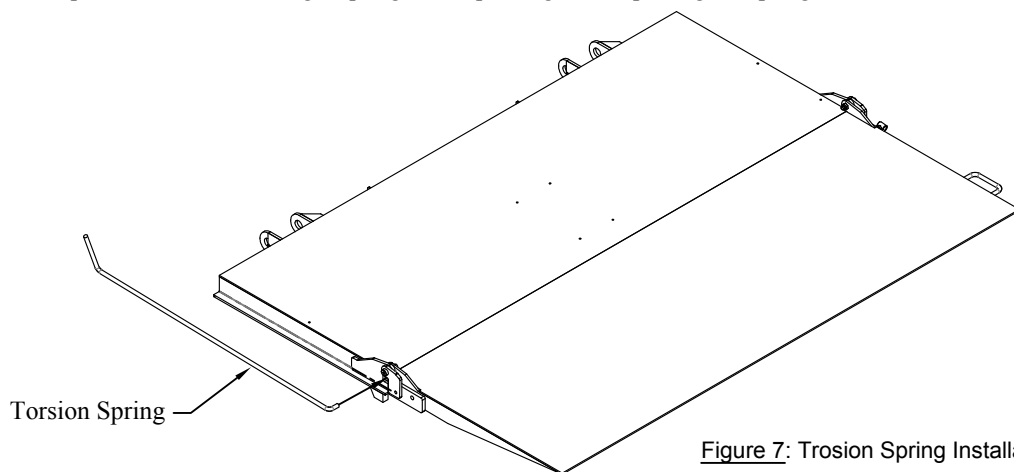

Figure 7: Torsion Spring Installation.
1. **INSERT** short end of spring into driver side main platform (Figure 7).